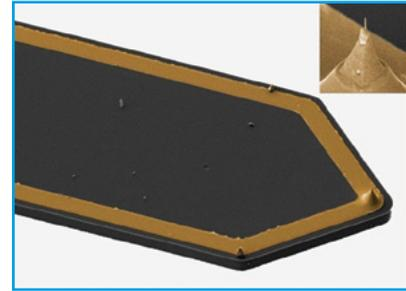

Fig. 1: Conductive self-sensing cantilever with small, conductive platinum tip (< 20 nm radius)
tips (20-30 nm) compared with normal, uncoated tips (< 10 nm). The result has been much poorer lateral resolution both of the topography and the conductivity signal. Our partner GETec is taking a new path by using self-sensing and conductive cantilevers which feature a different design. Fig. 1 shows a cantilever with platinum tip, applied with the FEBIP (focused electron beam induced processing) technique. Typically, these have a radius < 20 nm. In the image magnification the tip is seen as a little needle pointing upwards. During FEBIP, a nanogranular film, consisting of platinum nanoparticles embedded in a carbon matrix (Pt(C) film) is modified by using the electron beam of an SEM.